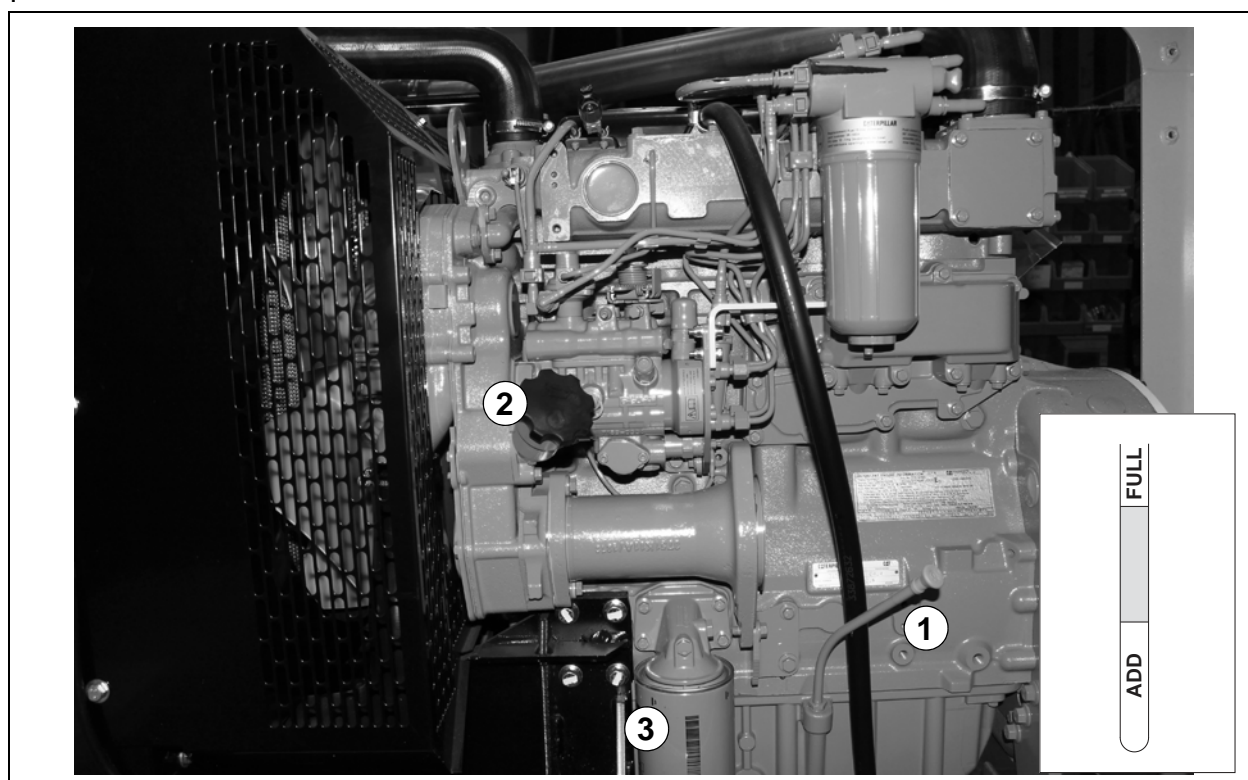

Figure 9.9 Checking the oil level
1. Before removing the filter (3), clean it carefully from the outside (Figure 9.9).